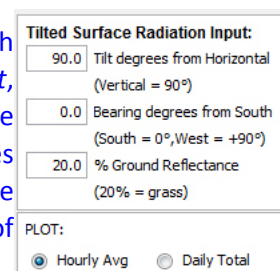

Figure C1.3.1 Tilt setting.
3. Assume that the sunny day peak solar heat gain is through your south aperture at noon and is at zero at sunrise and sunset. Use *Climate Consultant*, Radiation Range plot {set the Tilt to 90°, see Fig C1.3.1) to approximate your seasonal peak solar gains. Use the Total Surface Average High values for January, April, July and October. If the window is shaded, reduce the gain by 50%. Divide the peak gain from each aperture by the floor area of the zone.